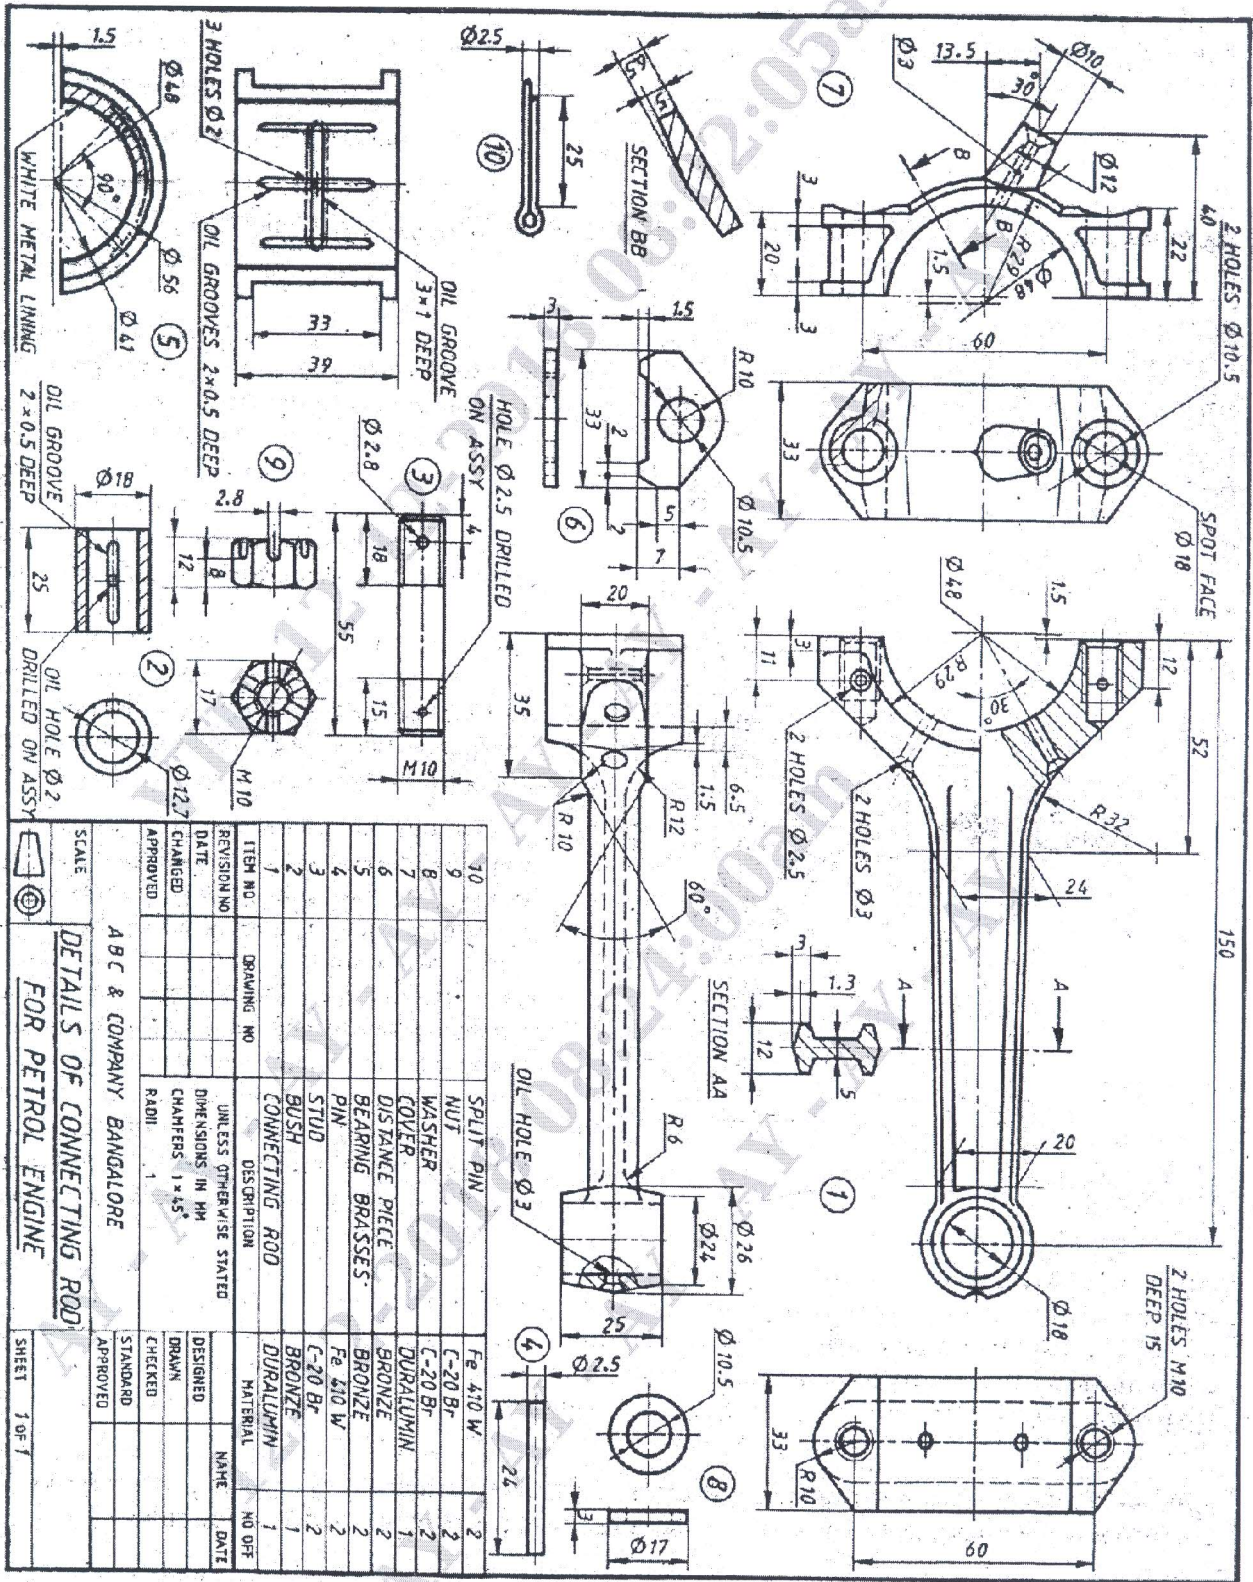

Figure 3 : I.C. Engine Connecting Rod
- Q.No.6** Figure 3 shows the part drawing of a “I.C. ENGINE CONNECTING ROD”. Assemble the Parts and show the following views.